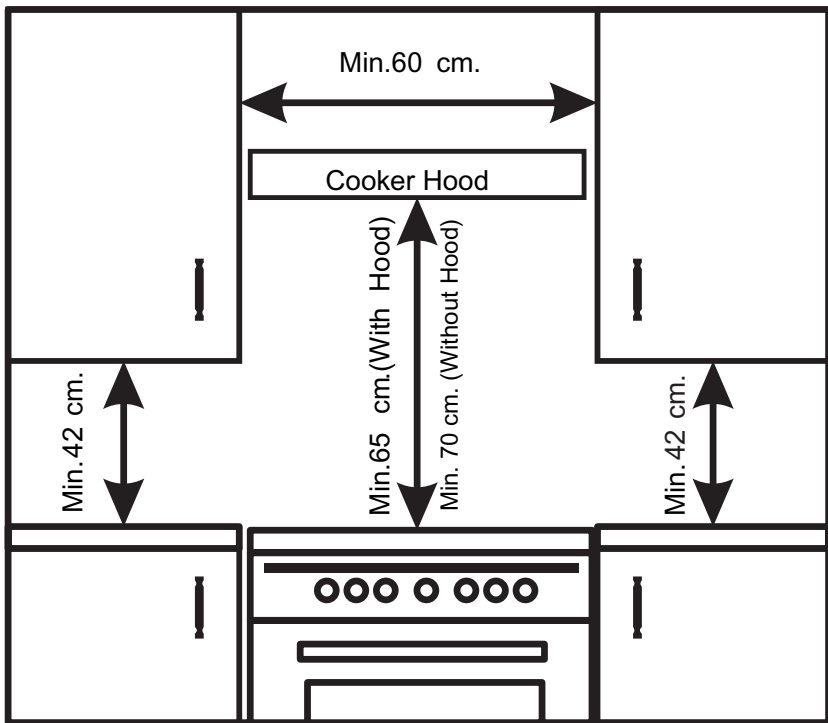

Figure 1
- f) Should the cooker be installed beneath a wall cabinet, the latter should be situated at least 70cm away from the hobs as indicated in figure 1. The
- g) cut-out for the cooker cabinet should have the dimensions indicated in the figure 1.